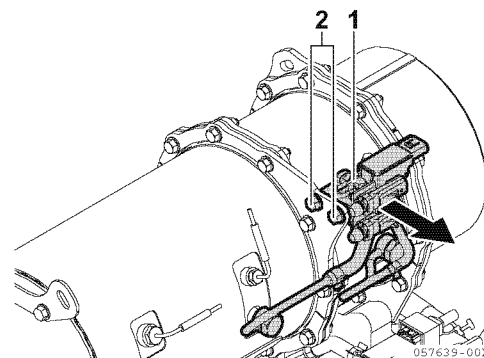

Figure 13-14
- Loosen the sensor bracket (1 Figure 13-14) M8 flange bolts (2 pcs.) (2 Figure 13-14) that mount the exhaust differential pressure sensor and the exhaust temperature sensor coupler, and remove.